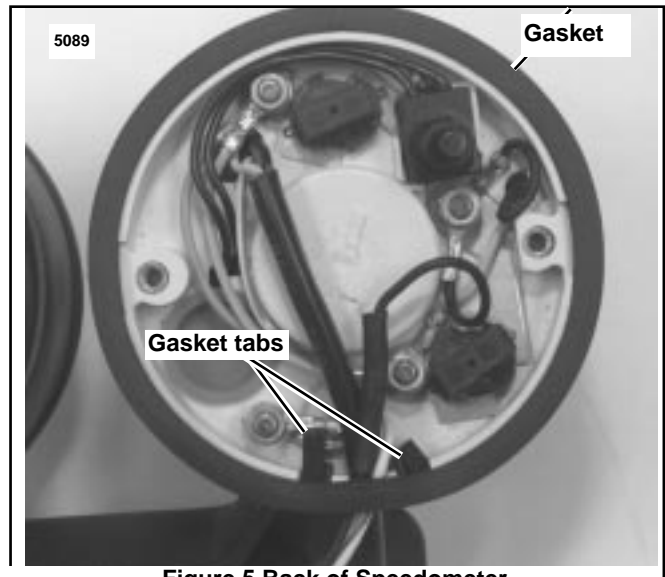

Figure 5. Back of Speedometer
1. See Figure 5. Place wires from speedometer through front